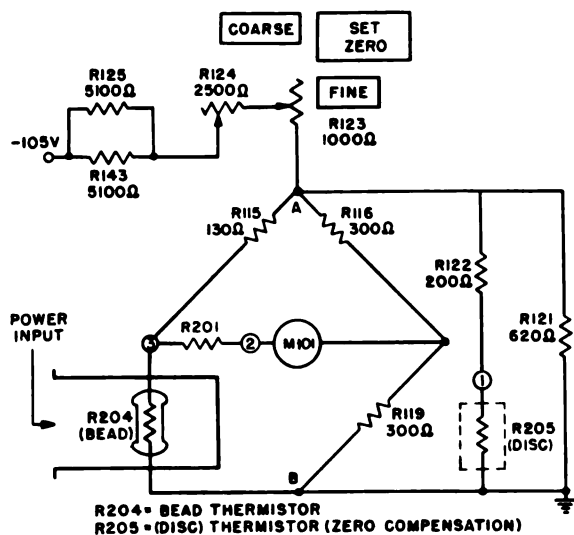

Figure 2-19. Complete Thermistor-Bridge Circuit
(4) THERMISTOR-BRIDGE CIRCUIT (See figure 2-19).
(figure 2-19).